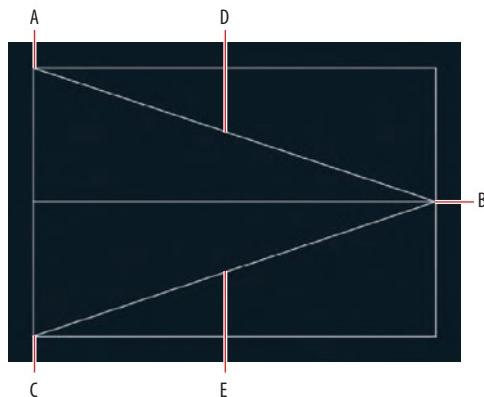

FIGURE 15.8 Drawing simple geometry to form the basis of an attributed block
- Click the Line tool in the Draw panel, and click points A, B, and C in Figure 15.8. Press Enter to end the LINE command.
- Click OK to close the Attribute Definition dialog box. Click the midpoint at point D in Figure 15.8. Figure 15.10 shows the result.
9. Press the spacebar to repeat the ATTDEF command. Type **IDNO** as the tag, **Identification number?** as the prompt, and **1234** as the default (see Figure 15.11). Set Justification to Middle Center and click OK. Click the midpoint of the lower diagonal line at point E in Figure 15.8.
12. Click the Pick Point icon in the Base Point area and then click point C in Figure 15.8.